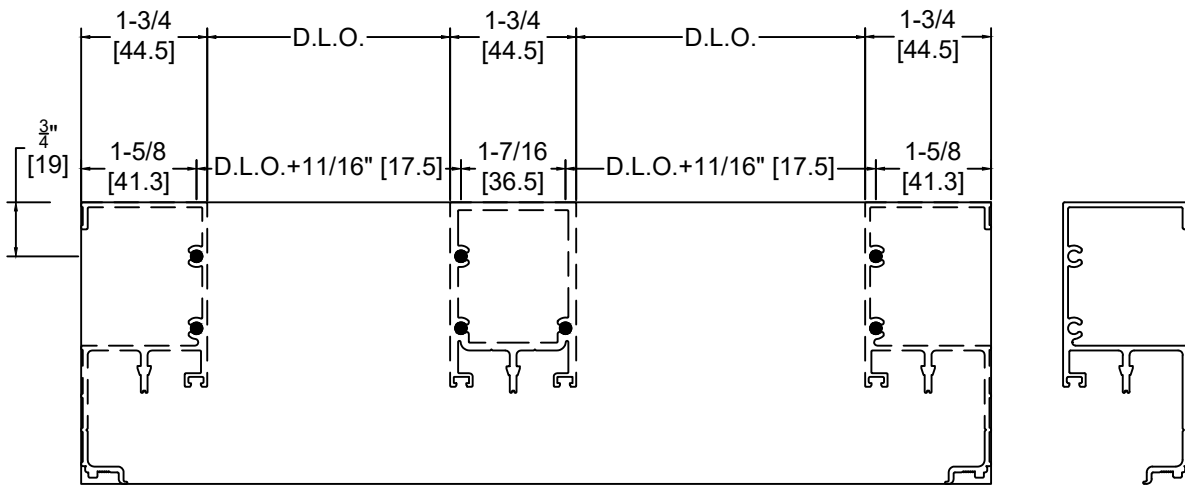

FIG. 1
A. Mark and drill .201" diameter holes in the head and sill FIG. 1. P1697 Drill fixture is available for use Fig.2